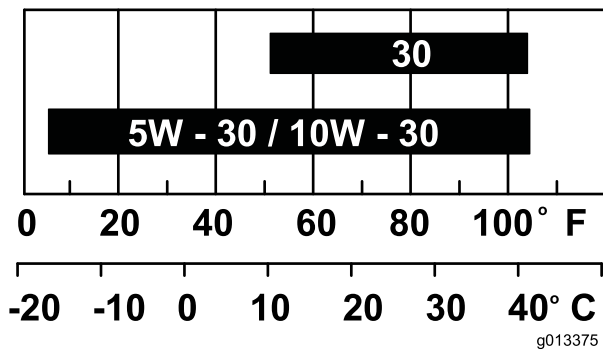

Figure 35
**Note:** Use SAE 10W-30 for general use. You can use the other viscosities shown in the chart when the average temperature in your area is within the indicated range (Figure 35).